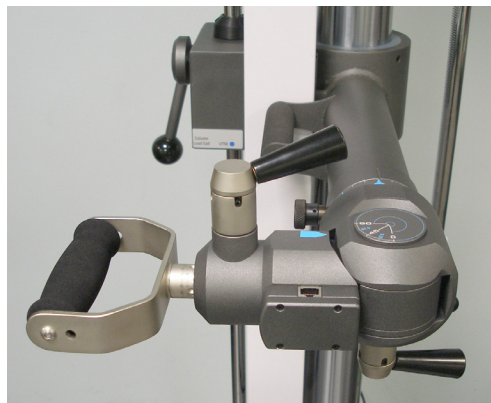

Figure 9-15. CLC Rotated in the Coronal Plane
Step 5. Slightly rotate the Column Load Cell back and forth until you hear the retractable pin lock into position. When this occurs, the Column Load Cell should not be able to rotate or move (Figure 9-15).